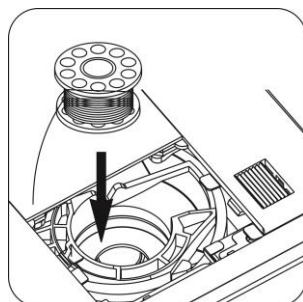
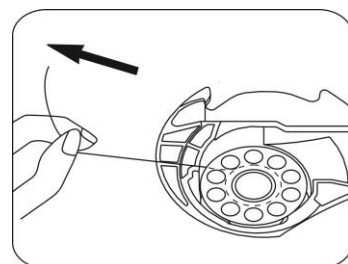

Fig.10
Fig.11
- 2) Put the new bobbin in the holder. Leave 10cm of thread hanging out (Fig.10 & Fig.11).